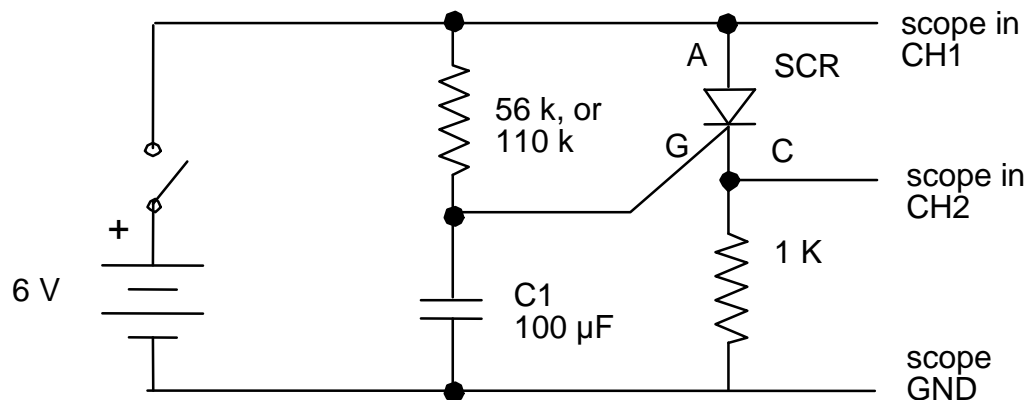

Figure 3-8 RC Timer
} The circuit in Figure 3-8 switches on a voltage across the load after a delay. The SCR switches on when the gate voltage (G) exceeds the cathode voltage (C). The gate voltage is developed across the capacitor  $C_1$  by the R-C combination.